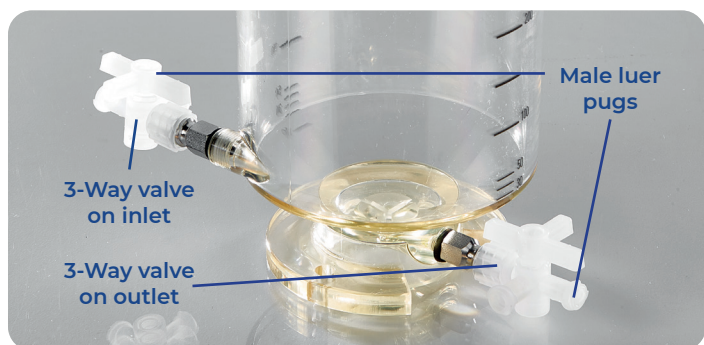

Figure 3
6. Connect 3-way valves to fittings on reservoir outlet and inlet. Attach male luer plugs onto female luer connectors on 3-way valves. (See figure 3)